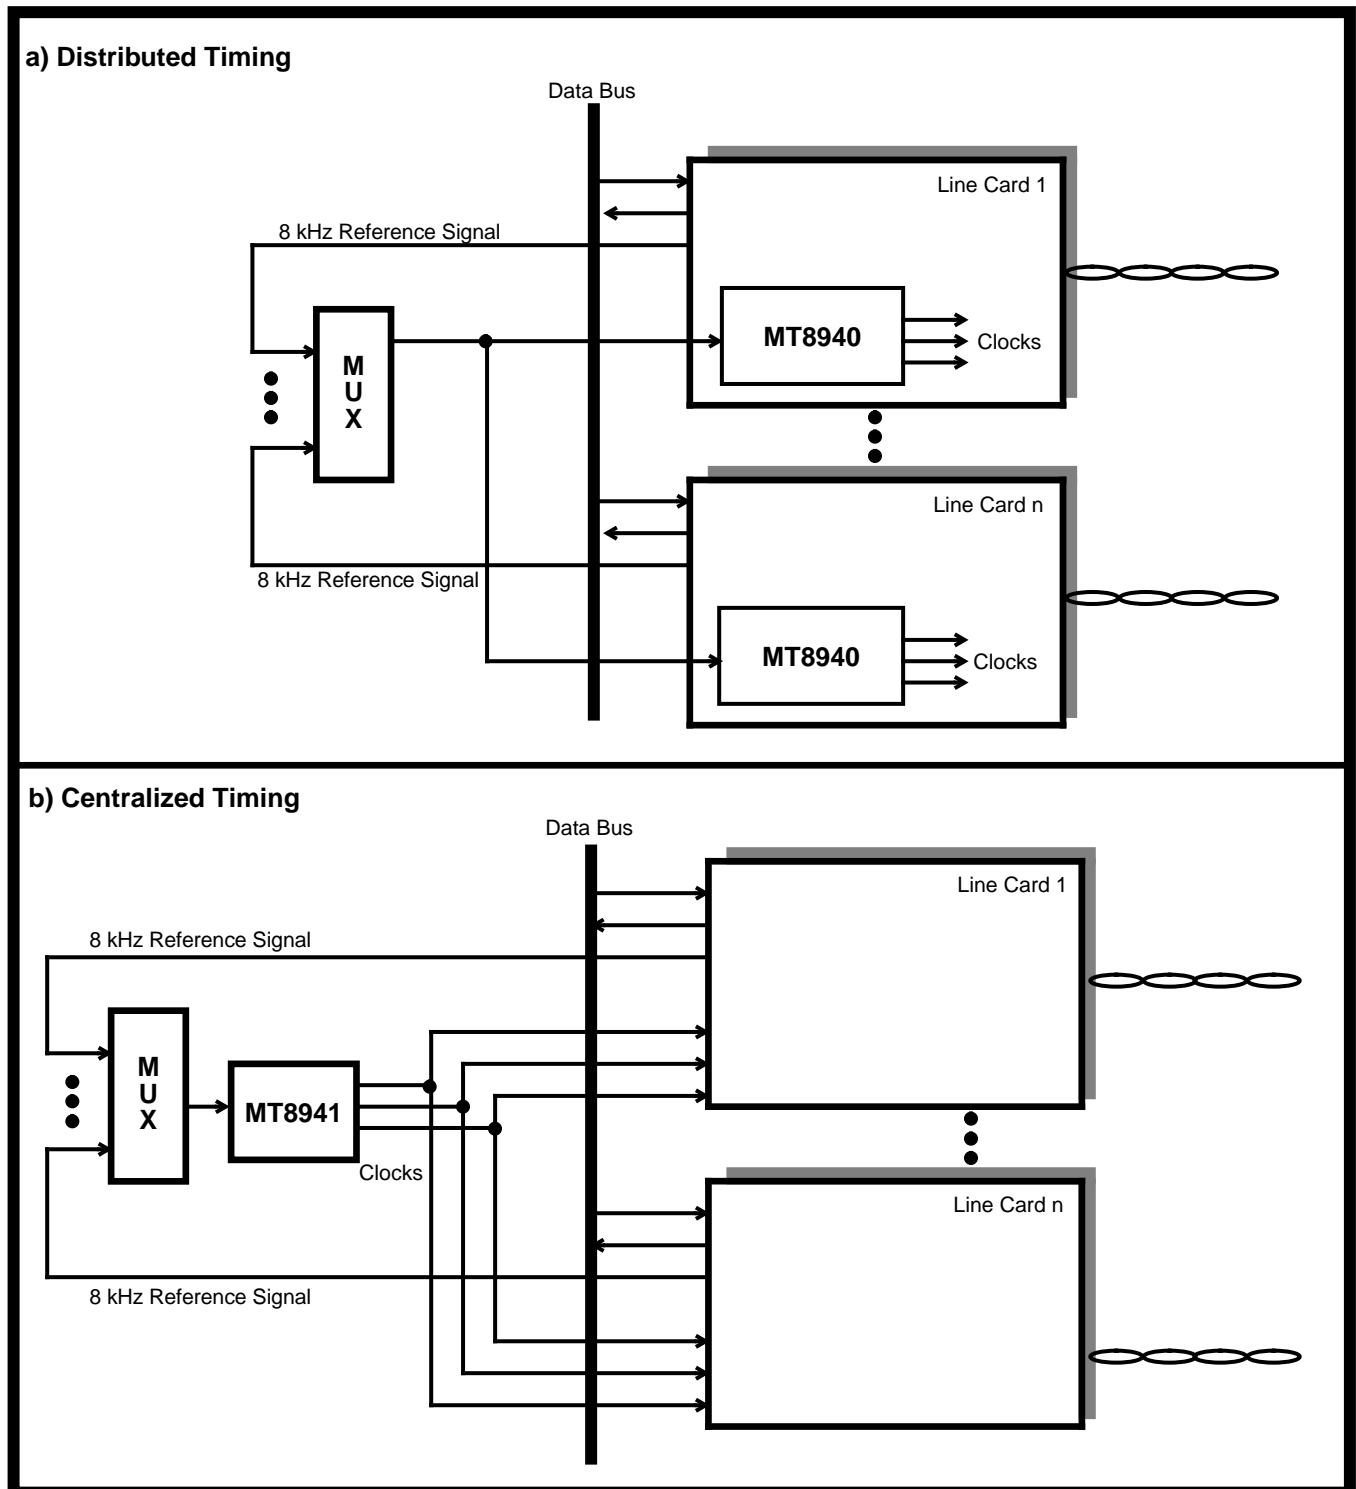

Figure 8 - Application Differences between the MT8940 and MT8941
2. The MT8941 includes a no-correction window to filter out low frequency jitter and wander as illustrated in Figure 4. Consequently, there is no constant phase relationship between reference signal  $\overline{F0i}$  of DPLL # 1 or C8Kb of DPLL #2 and the output clocks of DPLL #1 or DPLL #2. Figure 4 shows the new phase relationship between C8Kb and the DPLL #2 output clocks. Figure 8 illustrates an application where the MT8941 cannot replace the MT8940 and suggests an alternative solution.